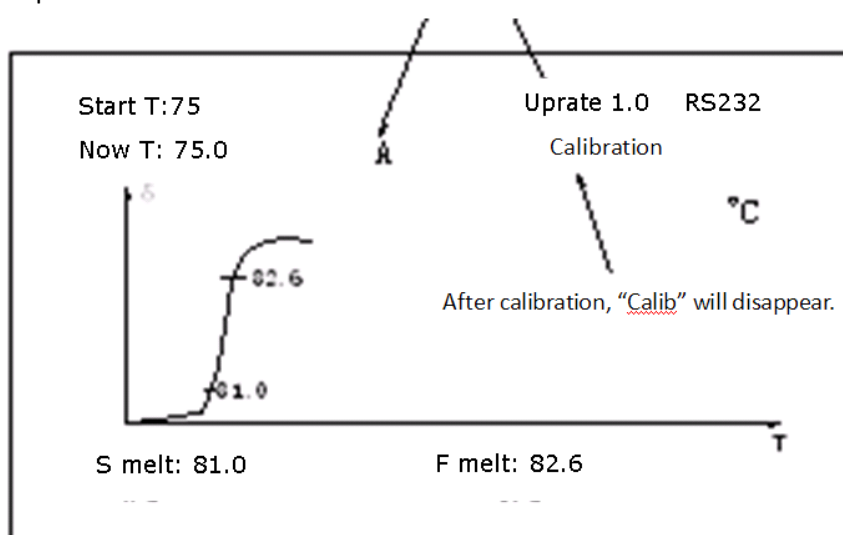

Figure 16
- 4) The number of final melting temperatures have been entered should be consistent to the number of standard samples to be measured. When the last standard sample is regarded as valid, press "OK" key. The operation indicator displays "A", which means the instrument is under calibration status. When "A" disappeared, it means the calibration is finished (See Figure 16), and you can start with sample detection.